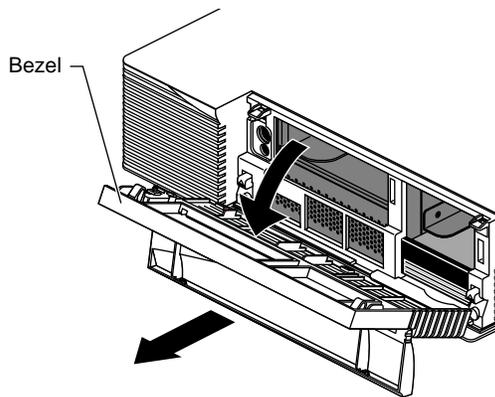

Figure 1-4 Removing the Bezel
- Pull the bezel down and away from the chassis. See Figure 1-4.